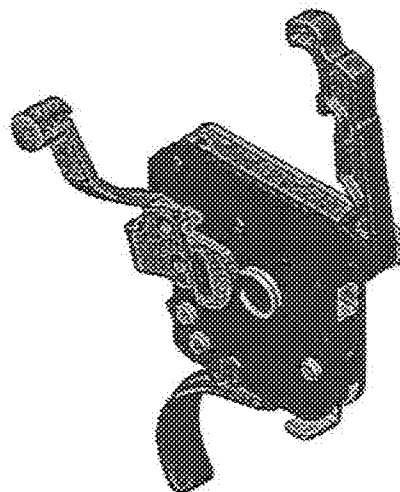

Figure 7
7. Place the front end of sear safety cam into the trigger housing as shown in Figure 7. Insert a M7 bolt stop pin through the trigger housing and sear pivot hole to retain the sear safety cam in the trigger housing.